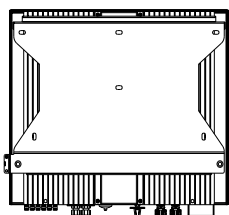
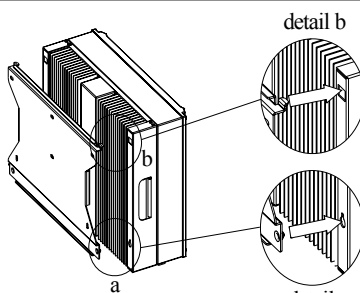

Figure 3.4-3
Figure 3.4-4
4. Place the inverter on the wall-mounted bracket. Refer to Figure 3.4-3、 Figure 3.4-4.